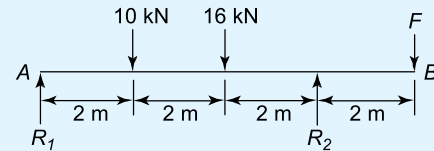

Figure 6.19
4. A simply supported beam AB is loaded as shown in Figure 6.19. Determine the load F in order that the reaction at A is zero. [36 kN]